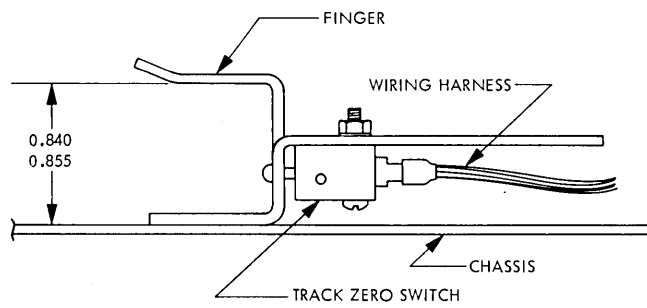

Figure 4-6. Track 0 Switch Adjustment
- (7) Perform several repetitive Step-In commands to move the carriage away from track 0. Refer to Figure 4-6.
- (8) Open the loading door and remove the CE Alignment Diskette.
- (9) Remove power.